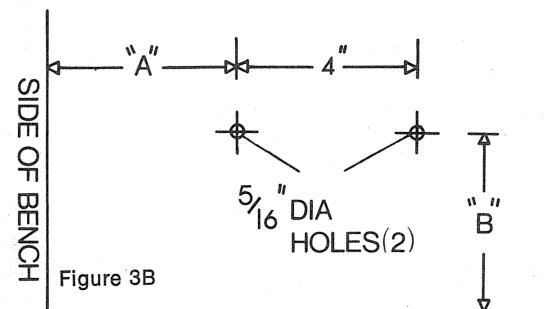

Figure 3B
**6" and 7" (NOS. 4310, 4315) BENCH GRINDERS (Figure 3B):** Two  $\frac{1}{4}$ "-20 or  $\frac{1}{4}$ "-28 square head bolts, two  $\frac{1}{4}$ " nuts, two  $\frac{1}{4}$ " flat washers, and two  $\frac{1}{4}$ " lockwashers are required (not supplied). Bolt length should be approximately the thickness of the bench top plus 1 inch.
Figure 3B shows the location of the required mounting holes in the bench.